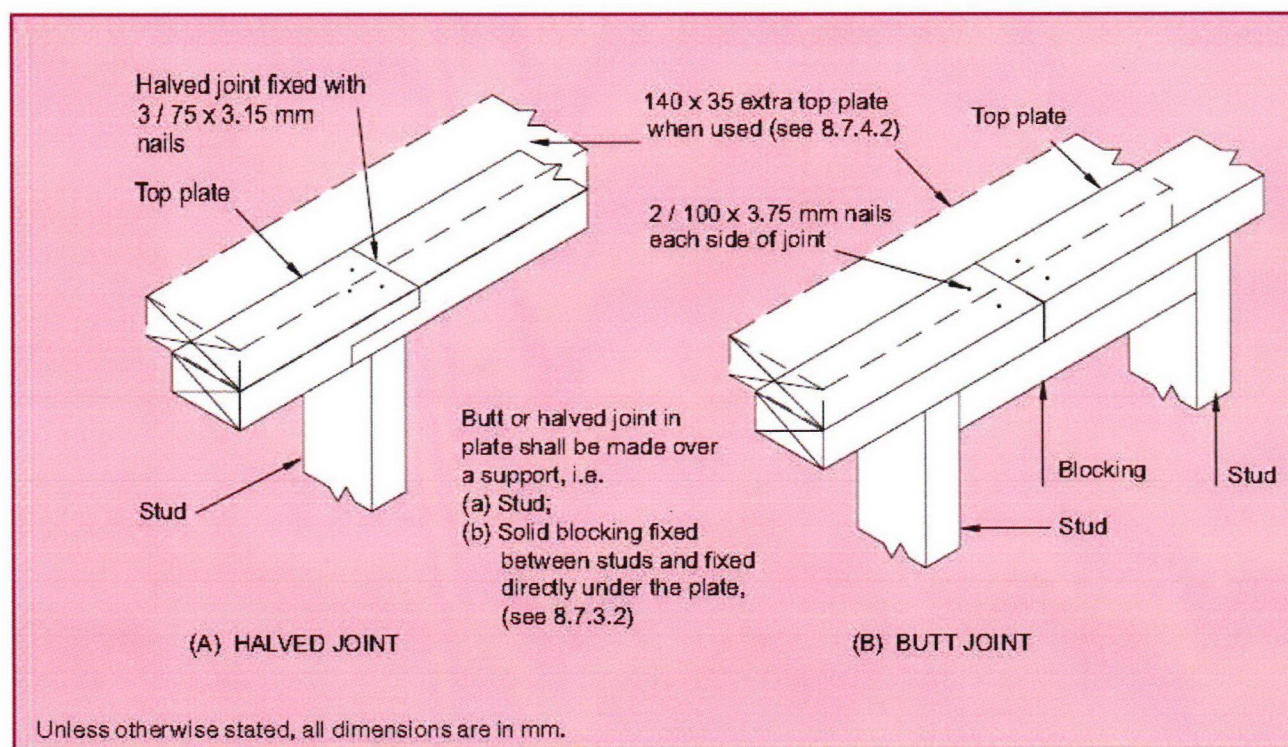

Figure 8.14 – Connecting top plates – Walls not containing bracing (see 8.7.3.2)
Joints in the top plate of a wall that does not contain any wall bracing elements (either in line or at wall intersections), shall be halved and nailed at the joints, see figure 8.14 (A), or be butted over blocking and nailed, see figure 8.14 (B), or be provided with an alternative fixing, having a capacity in tension or compression of 3 kN.